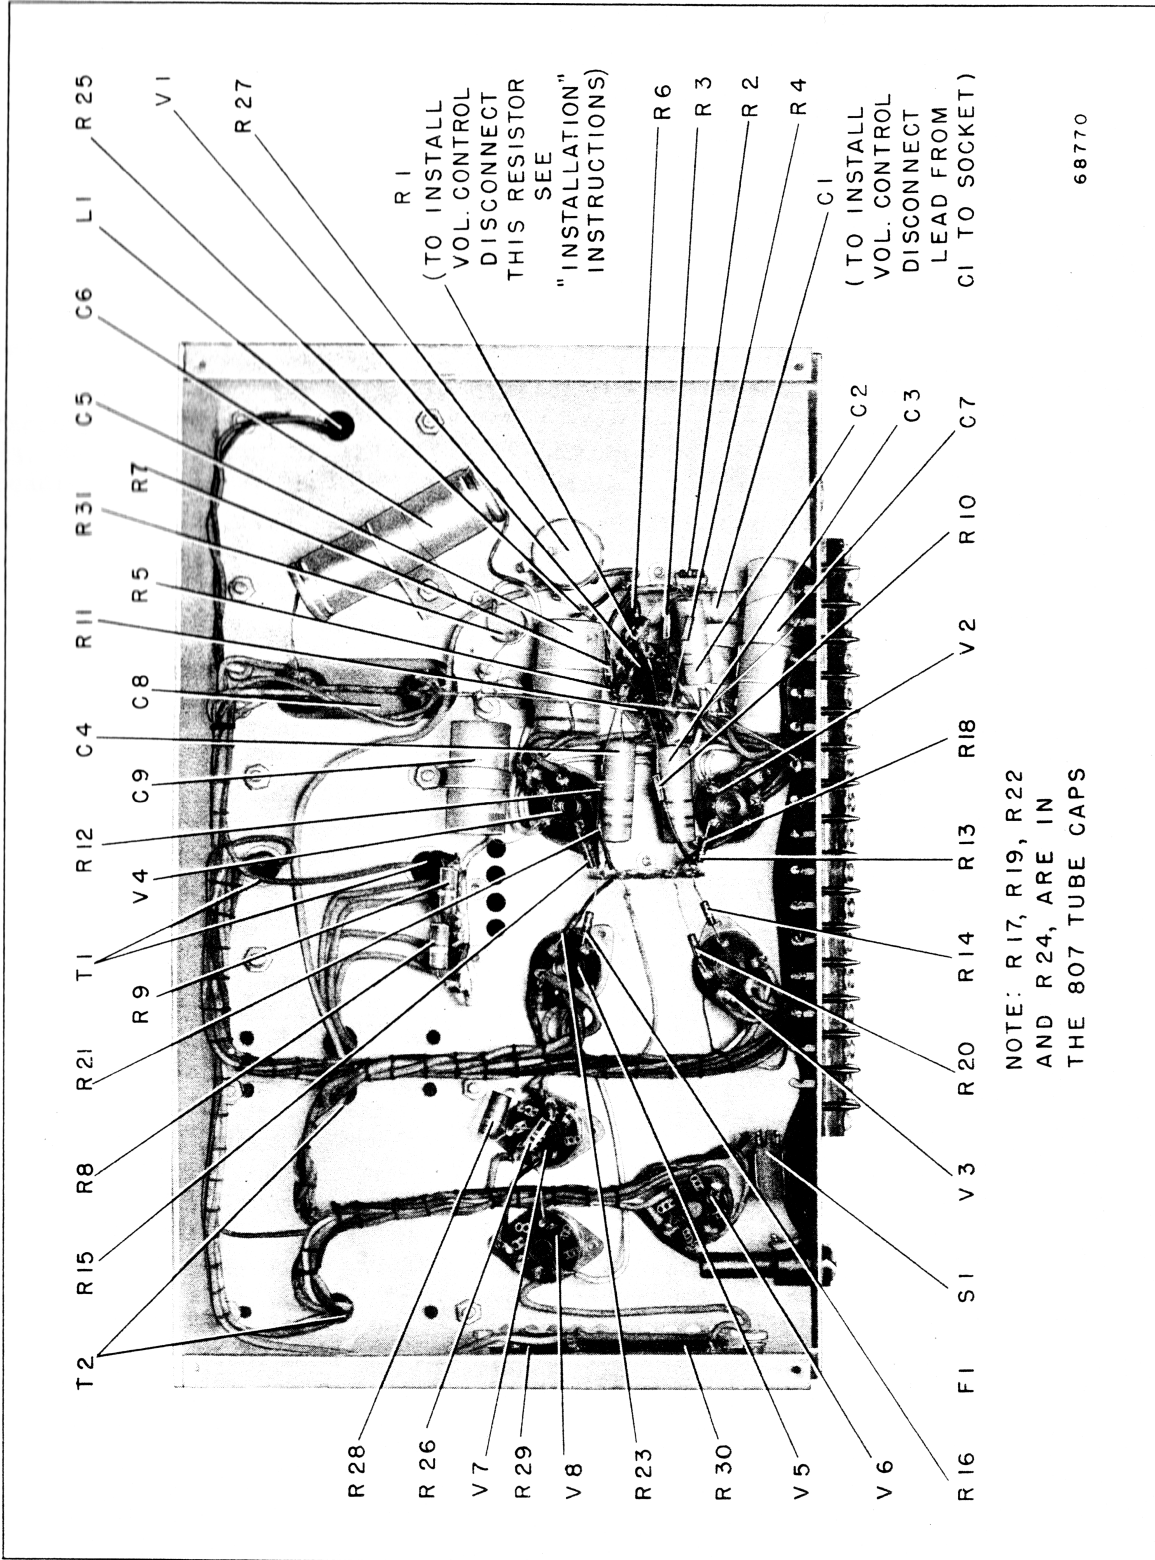

Figure 6 - Subchassis View of Amplifier
2. Disconnect the resistor R₁ from terminal 4 of the 6SL7GT tube (V₁) socket and the center terminal on the nearby terminal board, see figure 6.